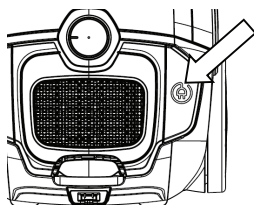

Fig. 7
Press the cord rewinding button (7) to retract the power cord into the cable compartment (Fig 7).